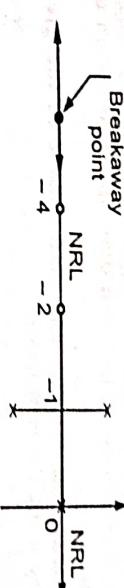

Fig. 3.1 (c)
- If there is a zero on the real axis and to the left of that zero there is no pole or zero existing on the real axis and complete real axis to the left of this zero is a part of the root locus then there exists minimum one breakaway point to the left of that zero. This is shown in the Fig. 3.1 (c).